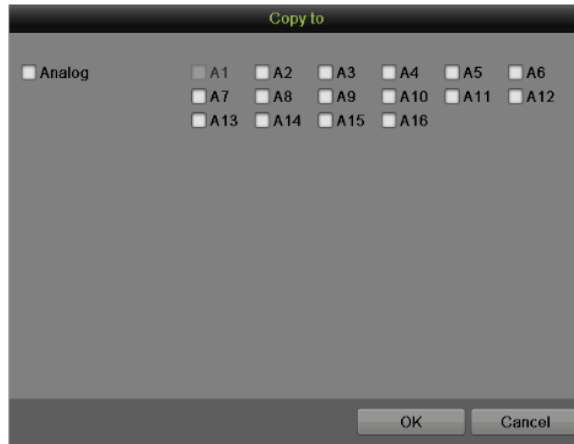

Figure 80 Copy to
6. Repeat the above steps to set record schedule for other channels. If the same schedule can be applied to other channels, click the Copy button to pop-up a Copy to box, as shown in **Figure 80**.